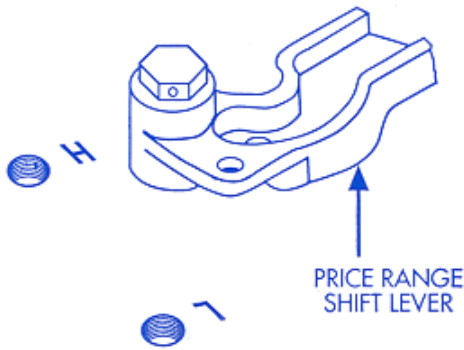

FIGURE 3
- 3) Set price range shift lever in the "H" or "1" position. (see Figure 3).
- 3) Set price range shift lever in the "H" OR "1" position. (see Figure 3).